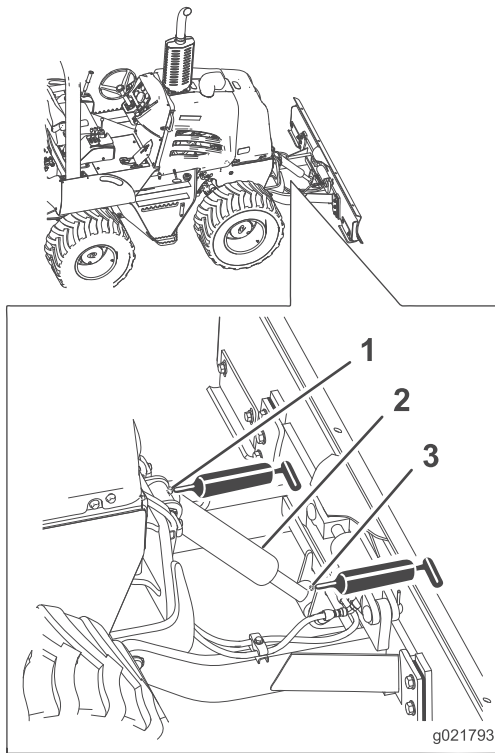

Figure 35
2. Connect the grease gun to the upper and lower grease fittings for the lift cylinder, and apply 3 pumps of grease to each fitting (Figure 35).